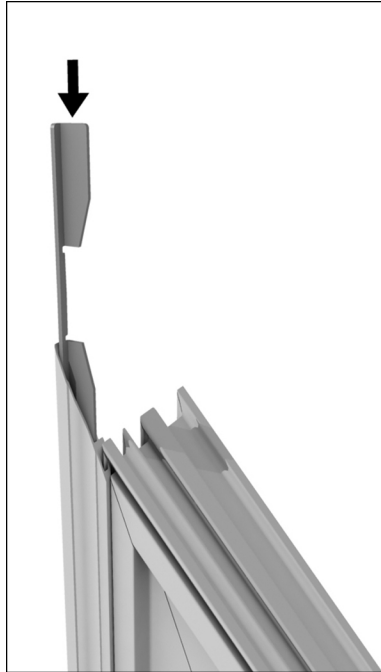

Figure 1
1. Install one leg of the J-Channel, taking care not to seat the corners into the kerf. See figure 1. Insert one side of the adjustable corner key, flat side to the interior, halfway into the J-Channel. See figure 1.